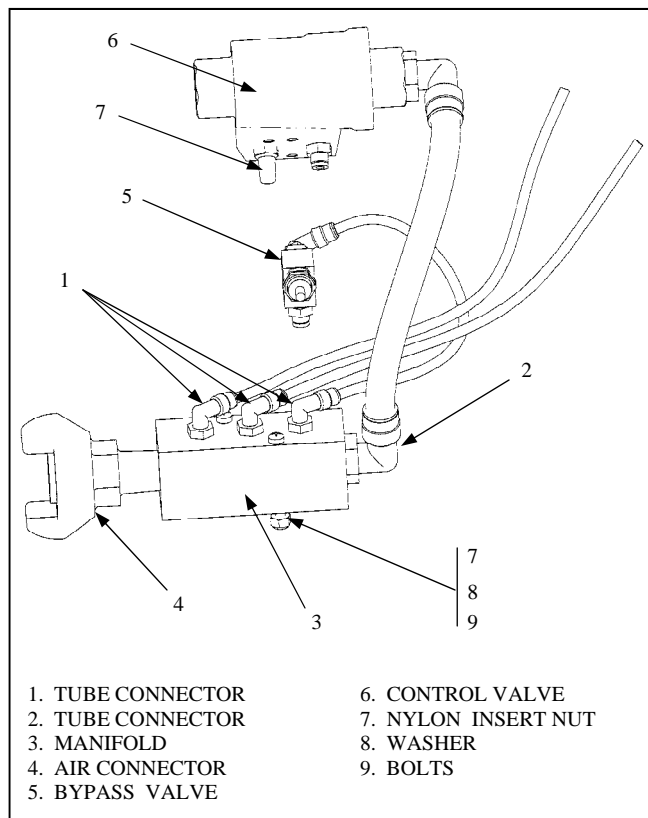

Figure 5-4. Control Valving Group
- b. Remove bolts (2) and nuts (3). Separate manifold from cover.
- c. Remove vacuum generators (4).
- d. Remove close nipples (8) and hex plugs (7).
- e. Remove tube fittings (1) from vacuum generators (4).
5.3.2.2 Control Valving Group. The Control Valving Group is located under the Vacuum System Assembly cover. Follow the maintenance steps in Paragraph 5.3.2 before beginning the next maintenance steps. See Figure 5-4 for the following steps.
- a. Remove pneumatic lines coming from the Auto Shut-off Assembly (not shown) from the Control Valve (6) and Auto Shut-off Bypass Valve (5) by releasing tube connectors. This will free the Auto Shut-off Bypass Valve from the group.